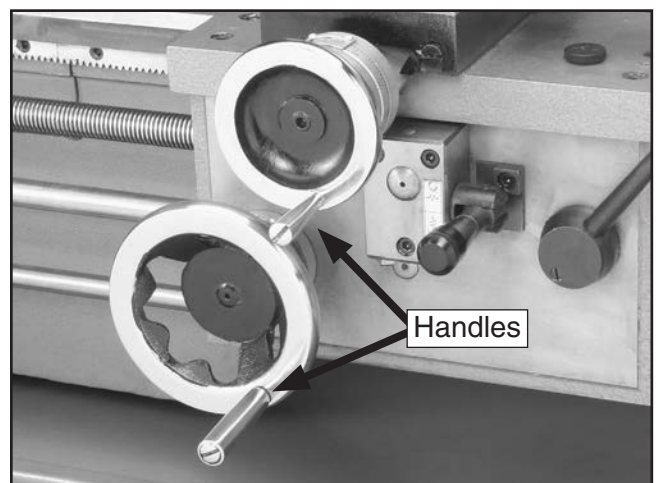

Figure 12. Handwheel handles installed.
10. Install the handles on the cross slide and carriage handwheels, as shown in **Figure 12**.